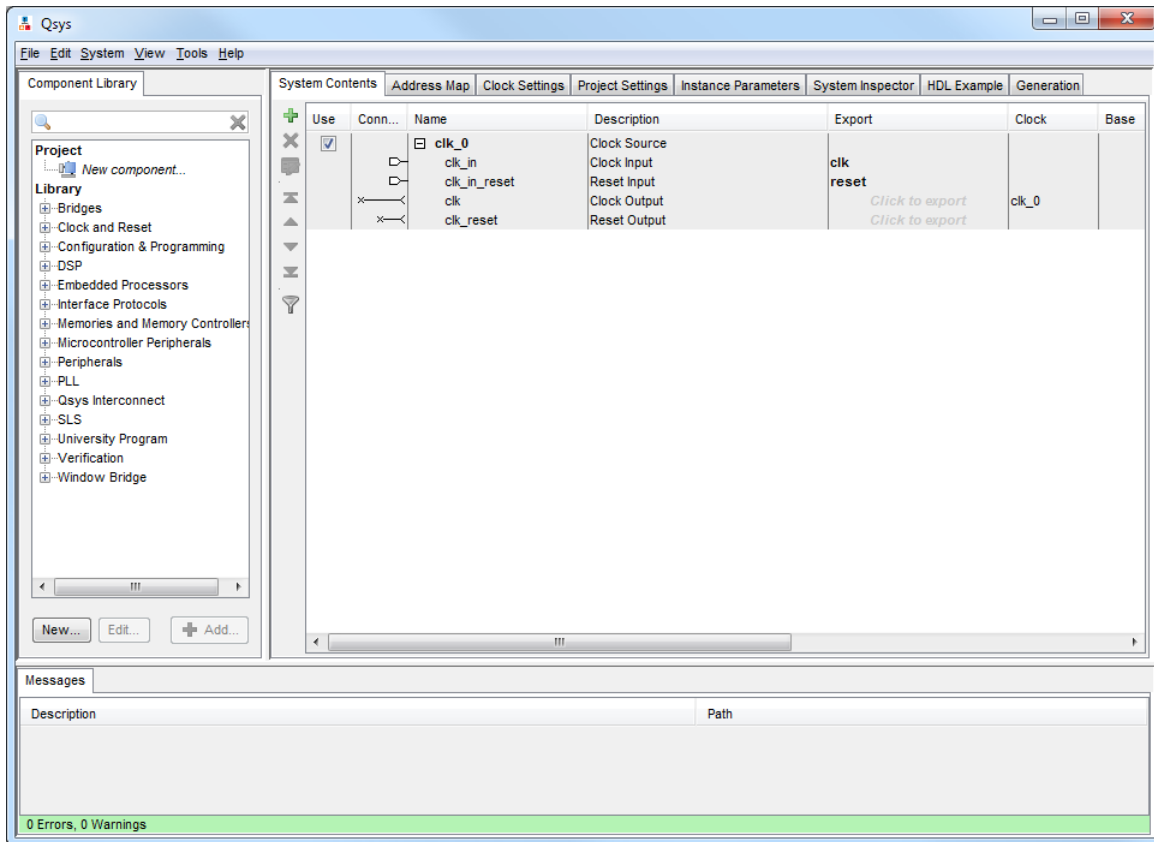
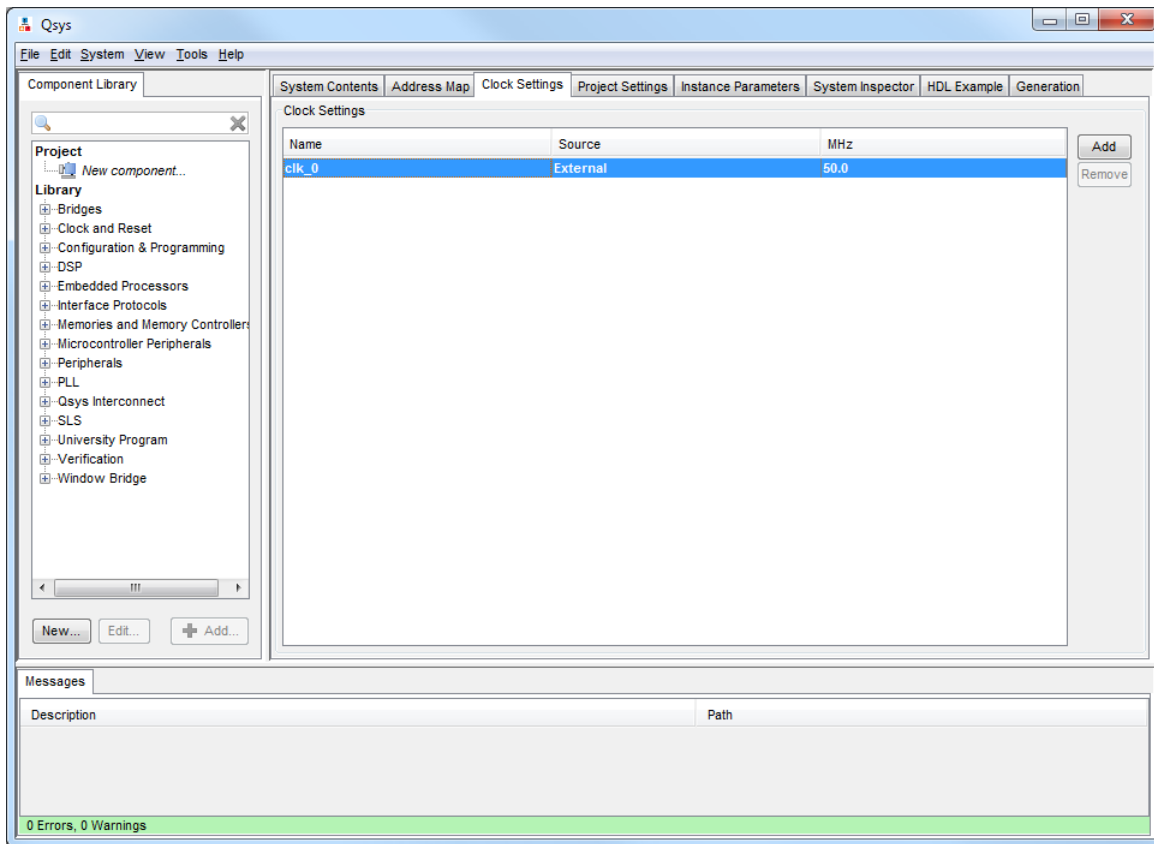

Figure 4. Create a new Nios II system.
Figure 5. The Clock Settings tab.
- After completing the New Project Wizard to create the project, in the main Quartus II window select **Tools > Qsys**, which leads to the window in Figure 4. This is the System Contents tab of the Qsys tool, which is used to add components to the system and configure the selected components to meet the design requirements. The available components are listed on the left side of the window.
- The hardware system that will be generated using the Qsys tool runs under the control of a clock. For this tutorial we will make use of the 50-MHz clock that is provided on the DE2-115 board. In Figure 4 click on the Clock Settings tab (near the top of the screen) to bring this tab to the foreground, as illustrated in Figure 5. Here, it is possible to specify the names and frequency of clock signals used in the project. If not already included in this tab, specify a clock named *clk\_0* with the source designated as **External** and the frequency set to 50.0 MHz. The settings are made by clicking in each of the three columns: Name, Source and MHz.